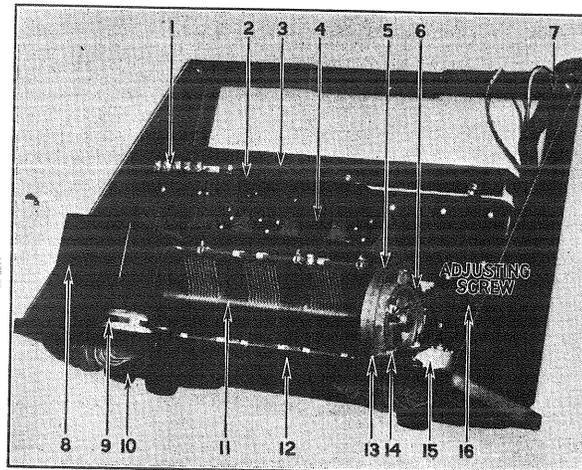

Fig. 2—Top of Radiola
**1. STATION SELECTOR**—The three tuning condensers are controlled from the station selector knob which operates the drive mechanism. A switch on the control, operated by pushing the knob, short circuits the voice coil of the reproducing unit while tuning the instrument. Should it become necessary at any time to remove this knob, the set-screw can be loosened by inserting a screw driver up through the hole in the radio panel. Any slack in the condenser drive cable can be taken up by tightening the adjusting screw shown in Fig. 2. The tuning switch mechanism is simple, and should not ordinarily require any adjustment.
1. Open in either 5000 ohm resistor 26, Fig. 2.